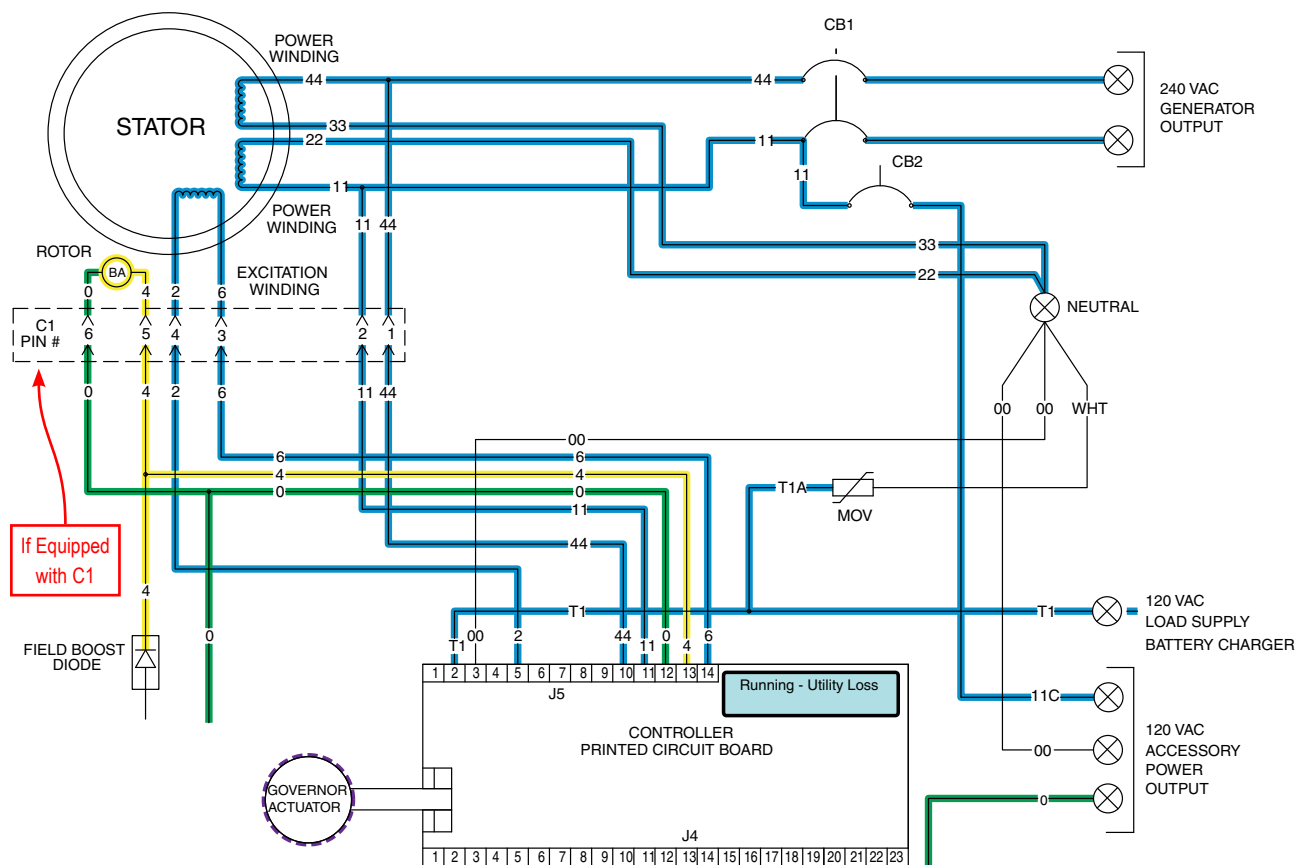

Figure 164.
- The “engine warm-up timer” will run for 5 seconds. When this timer finishes timing the controller’s logic will initiate a transfer to the “Standby” position. As shown in Figure 164, the timer is still running and transfer has not yet occurred.